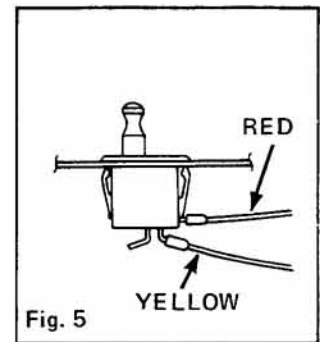

Fig. 5
- 21. Reconnect rear light and seat interlock switch. See Fig. 5 for seat switch connection.